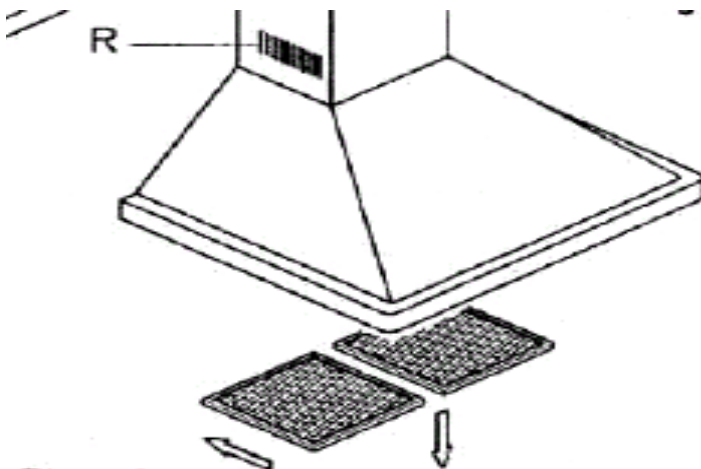

Fig. 2
- ✓ Remove the metal anti-grease filters (see Figure 2 below) and find the old bulb located in the light fixture up inside the exposed canopy. Change the incandescent bulb using only olive-shaped spares with an E14 coupling, max. 40W.
- 1) Press the handle of the metal grease filter towards the rear part of the unit until it is released from the front housing, and remove it by pressing downwards (Fig. 2 - above).